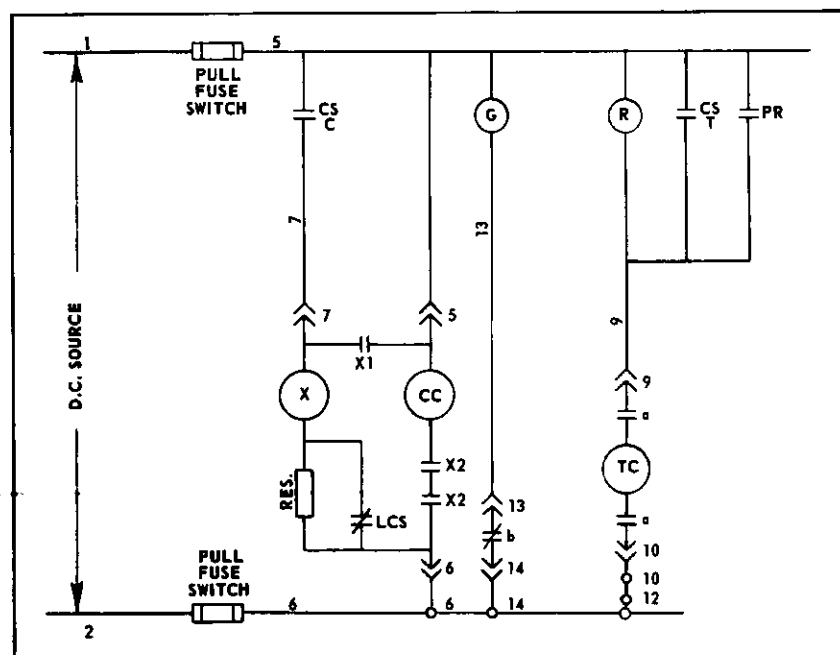

Fig. 46 Solenoid Breaker with DC Control and DC Shunt Trip
However, all schemes are derived from basic control schemes which are shown in their simplest form in Figs. 46, 47, and 48. They comply with requirements formulated and approved by AEIC, IEEE, NEMA, and ANSI. A comparison between the basic schemes and the schematic diagram for any particular assembly will reveal which basic scheme has been employed to meet the requirements for that particular application. All of the schemes are designed to electrically co-ordinate with the mechanical design of the breaker.
1. D-c shunt trip coils are most frequently used with the d-c control scheme. The d-c shunt trip is shown in Figs. 46, 47, and 48.